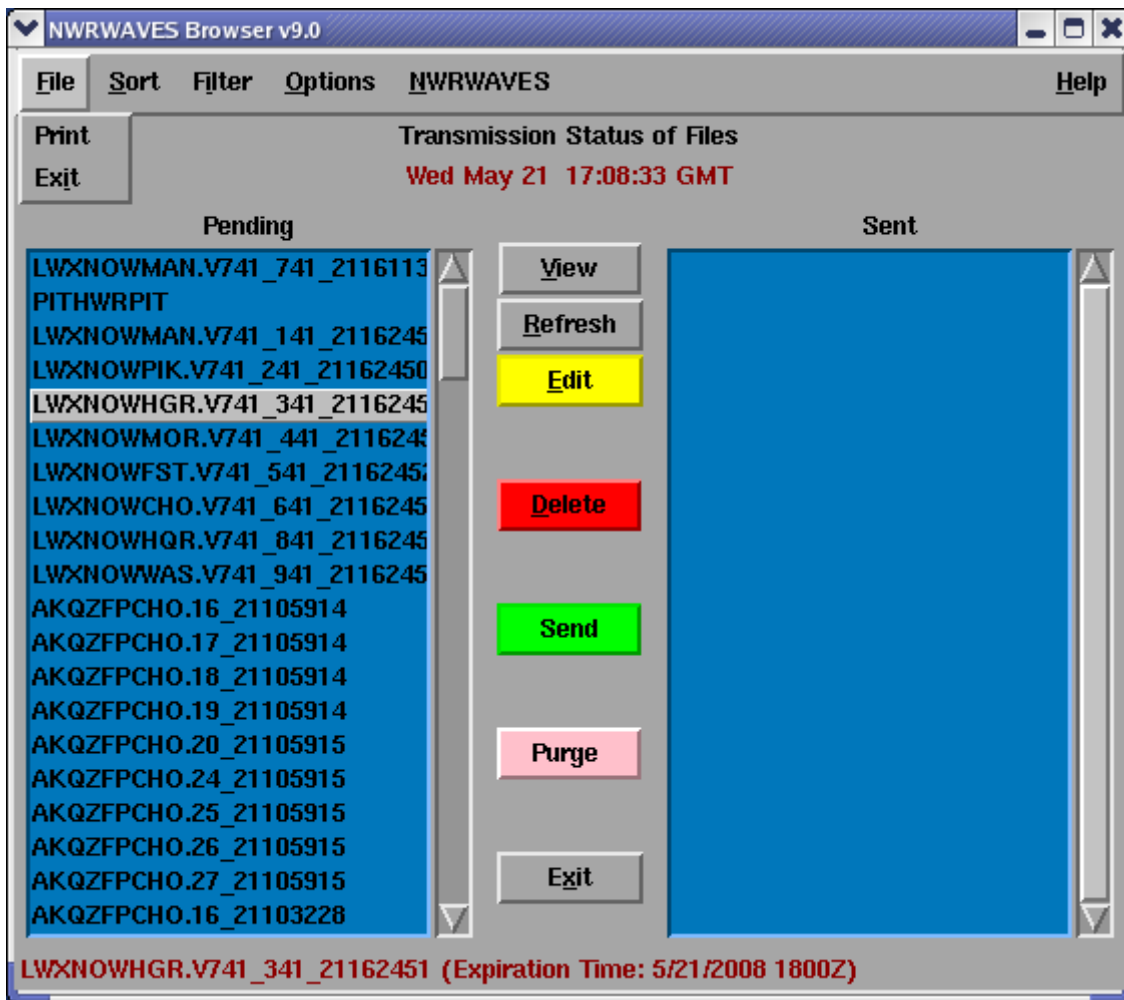

Figure 9 – NRRWAVES Browser (front-end application to NRRWAVES)
- a. **Print** – Print highlighted items from Pending/Sent lists (see Figure 9)